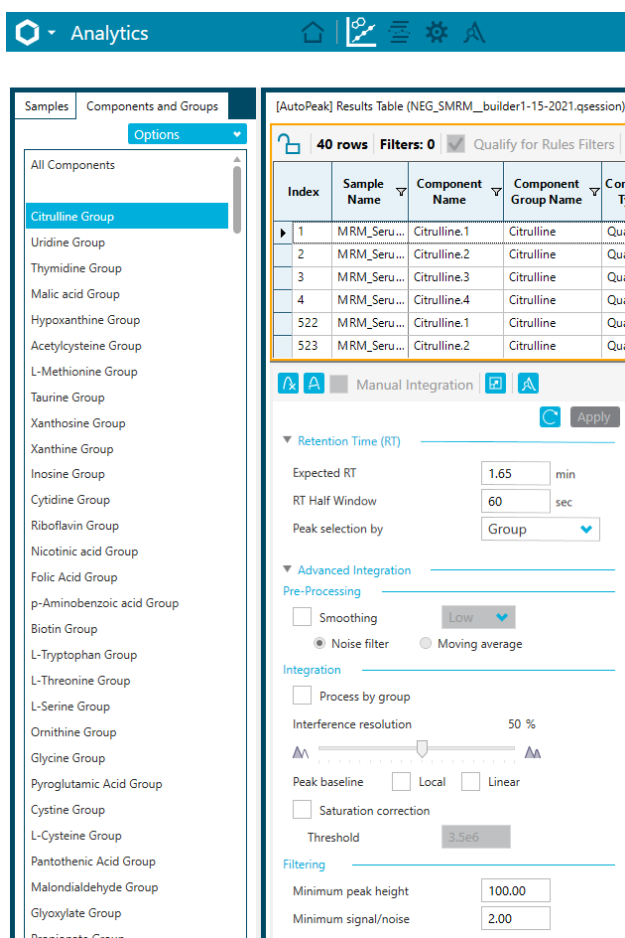

Figure 8-2. Integration defaults for data processing the global metabolomic data.
2. Click Process Method then Edit Embedded Method. Click Integration in the left-hand panel. Set the integration defaults as shown in **Figure 8-2**. Ensure to select Peak Selection by Group as this will help with selecting the right set of peaks for each metabolite when multiple MRMs per metabolite are present.